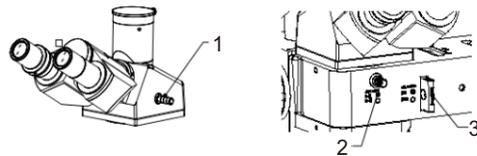

Fig. 4
2. Check the position state of observation / photography switch pole 1. Push the pole in to observation with eyepieces, pull it out to photography. As shown in Fig.4.
3. Check the position state of analyzer pole 2. Pull the pole out optical path, as show the remark "◼ ◦". Check the position state of polarizer 3. Pull the polarizer out optical, as show the remark "◼ ◦". As shown in Fig.4.